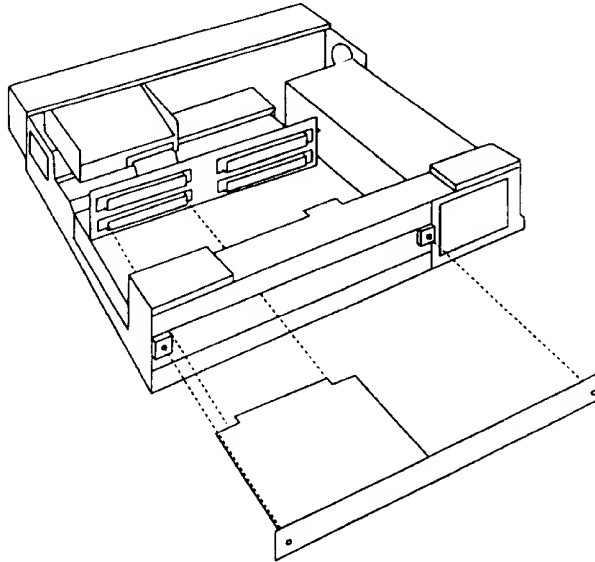

Figure 2: Fitting a co-processor card
- 2 To fit the co-processor card, support the backplane firmly with one hand and push the connector on the card into the co-processor socket (labelled module 2) on the backplane (see Figure 2). The connector should be securely seated, i.e. the backplate of the card should be flush with the rear of the computer case. It is important that you offer the card up to the backplane at right angles to it and that you align the connectors; otherwise, you may bend the pins or break or disconnect the backplane itself. It does not require great force to install the co-processor card correctly. If the card does not fit into the socket correctly, remove it and try again.